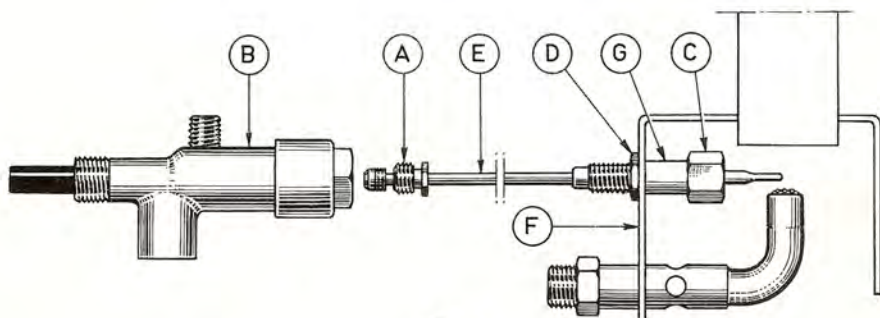

Fig. 4
(Fig. 4)
6. Tighten the lock nut D against the holder with a spanner, if necessary holding nut C with another spanner. Make sure the feeler is located as in fig. 4.
- Jet orifice clogged. Disengage gas pipe from burner. Unscrew nipple (26) with jet (5) and blow clear and wash in alcohol. Do not use wire or pin to clean orifice.
- Flame has gone out. Remedy: 1) Gas in bottle is used up — refill. 2) Feeler point of the flame failure device is not heated enough by flame — check against the fig. 4. 3) Clogged by-pass screw (8) — clean or exchange it.
- f. Flue baffle (1) not inserted into the central tube of the cooling unit.